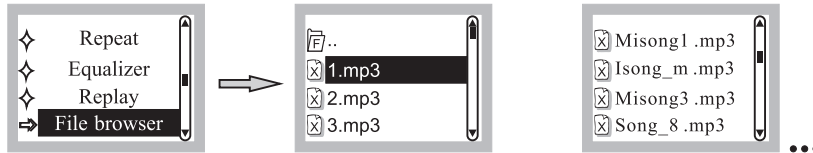

Fig. 13
- (I) File Browser Mode: Press Parameter knob to enter track directory. Turn right or left to select the desired track. Press Parameter knob to play the song tracks, Fig. 13.